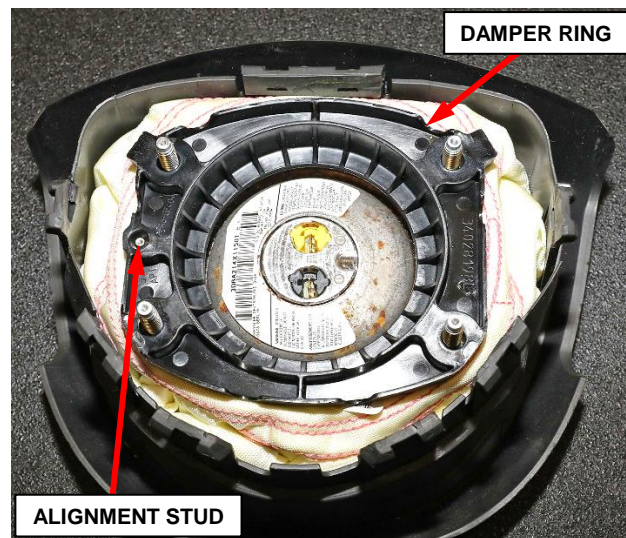

Figure 17 – Damper Ring (KA) Only
16. **(KA) Dodge Nitro**, if equipped, Install the plastic damper ring. Ensure the ring is properly aligned with the alignment stud (Figure 17).